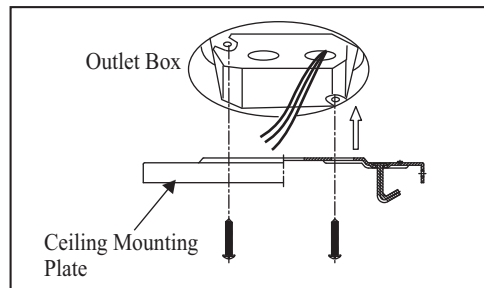

Figure 6
1. Attach the ceiling mounting plate to the outlet box with two screws and washers provided with the outlet box. Make sure the mounting plate is tight and secured (Fig. 6).